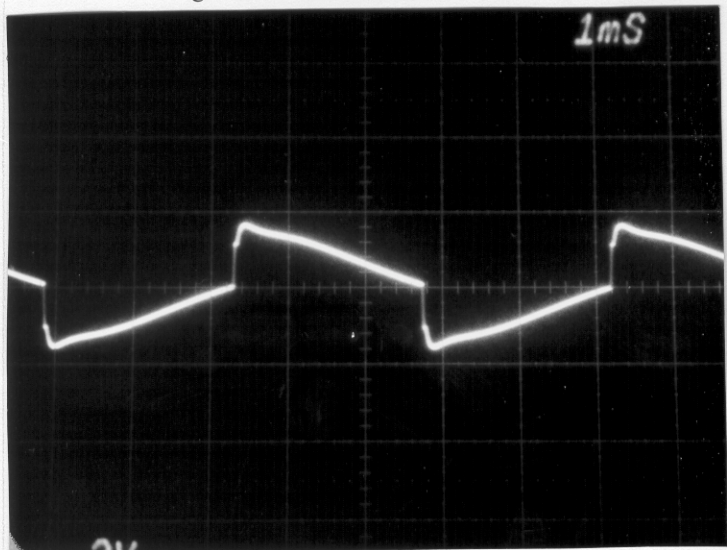
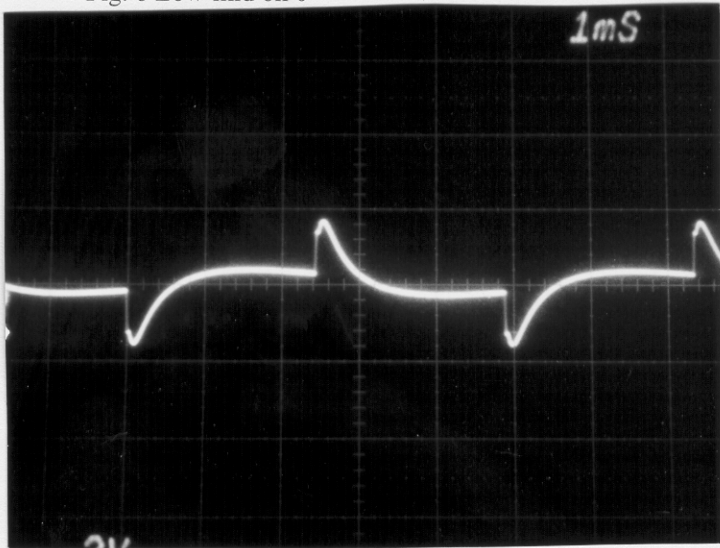

Fig. 9 Bass on 10
Fig. 10 Bass on 0
- D. BASS ON 10 = FIG 9; BASS ON 0 = FIG. 10.